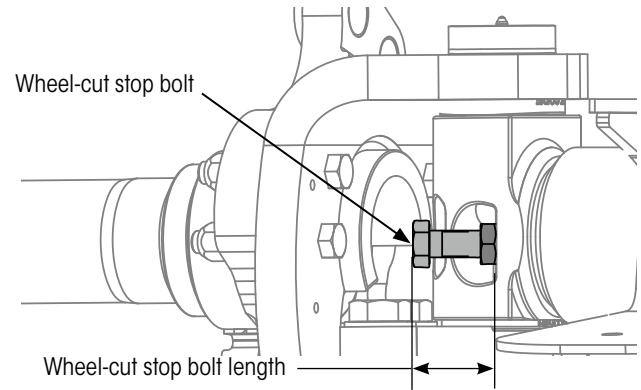

Figure 35: Adjustable wheel-cut stop bolts (Axle configuration may vary)
The maximum wheel-cut is set by adjusting the two wheel-cut stop bolts (Figure 35) on each end of the axle, rear side. These stop bolts are aligned to the knuckle for the purpose of limiting steer axle wheel-cut movement and prevent the wheels from contacting the trailer.
1. Loosen stop bolt jam nut (Figure 35).